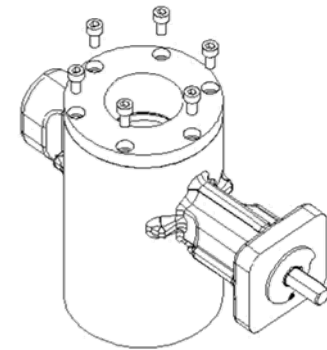

FIGURE 4
5. Fasten the six (6) cap screws back into the end cap. Make sure that the cap end and the body are in full contact with each other. (Fig. 4)